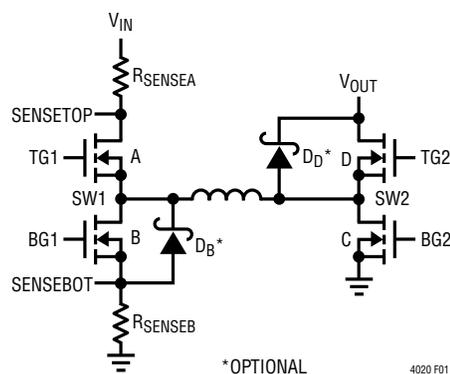

Figure 1. Converter Switch Diagram
As shown in Figure 1, when  $V_{IN}$  is higher than  $V_{OUT}$  during step-down (buck) operation, switches A (driven by pin TG1) and B (driven by pin BG1) perform the PWM required for accommodating power conversion. Ideally, switch D (driven by pin TG2) would conduct continuously and switch C (driven by pin BG2) would stay off, making PWM switching action much like that in a synchronous buck topology. Switch D uses a bootstrapped driver, however, so switch C conducts for a minimum on time of 150nS each cycle to refresh the driver and switch D is disabled to accommodate this refresh time. A 75ns non-overlap period, separates the conduction of the two switches, preventing shoot-through currents.
Figure 1 shows a simplified diagram of the four power switches and their connections to the IC, inductor,  $V_{IN}$ ,  $V_{OUT}$ , ground, and current sense elements.
The LTC4020 performs inductor current sensing via two resistors connected in series with the  $V_{IN}$  side switches (see Figure 1). The high side sense resistor ( $R_{SENSEA}$ ) is connected between  $V_{IN}$  and the drain of the top side switch FET (A). Both nodes on the sense resistor must be Kelvin connected to the IC via the pins SENSVIN and SENSTOP. Likewise, the low side sense resistor ( $R_{SENSEB}$ ) is connected between the source of the bottom side switch FET (B) and